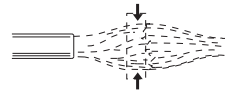
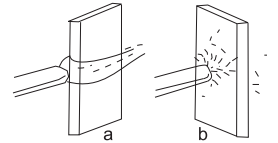

FIGURE 3: MAXIMUM HEAT ZONE
FIGURE 4: HEAT ANGLE
- Heating Technique: the maximum heat zone of the air/fuel tip is very concentrated and is located between 1 and 2 tip diameters away from the end of the tip (Figure 3). If you hold the torch too close or too far away, there will be noticeably less heat. The angle at which the heat is applied can also increase the target heat (Figure 4).